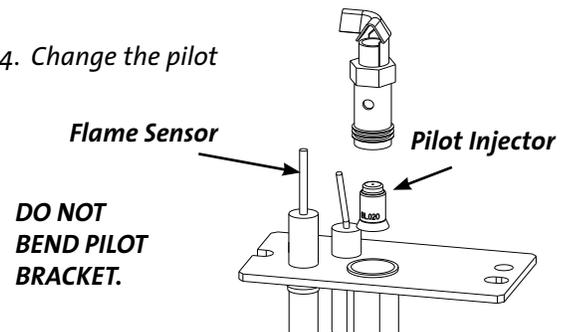

Figure 24. Change the pilot injector.
- Use the 7/16" wrench to remove the pilot head. **Grasp the pilot bracket with pliers or vice-grips to prevent it from bending out of alignment.** See fig.24. Remove the original pilot injector from the base and install the new injector oriented as shown.